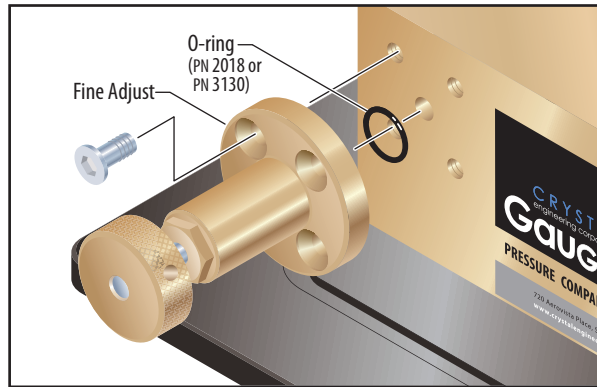

Figure 13
18 Use either a 4- or 5mm Allen key to remove the four (4) cap screws holding the Fine Adjust to the side of the Manifold Block, then pull the Fine Adjust and its o-ring (PN 2018 or PN 3130) away from the Manifold Block (figure 13).